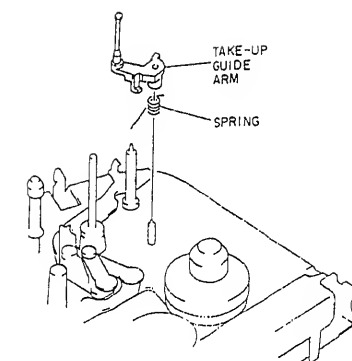

Fig. 2-83
1. Release the spring between the take-up guide arm and chassis. (See Fig. 2-83)